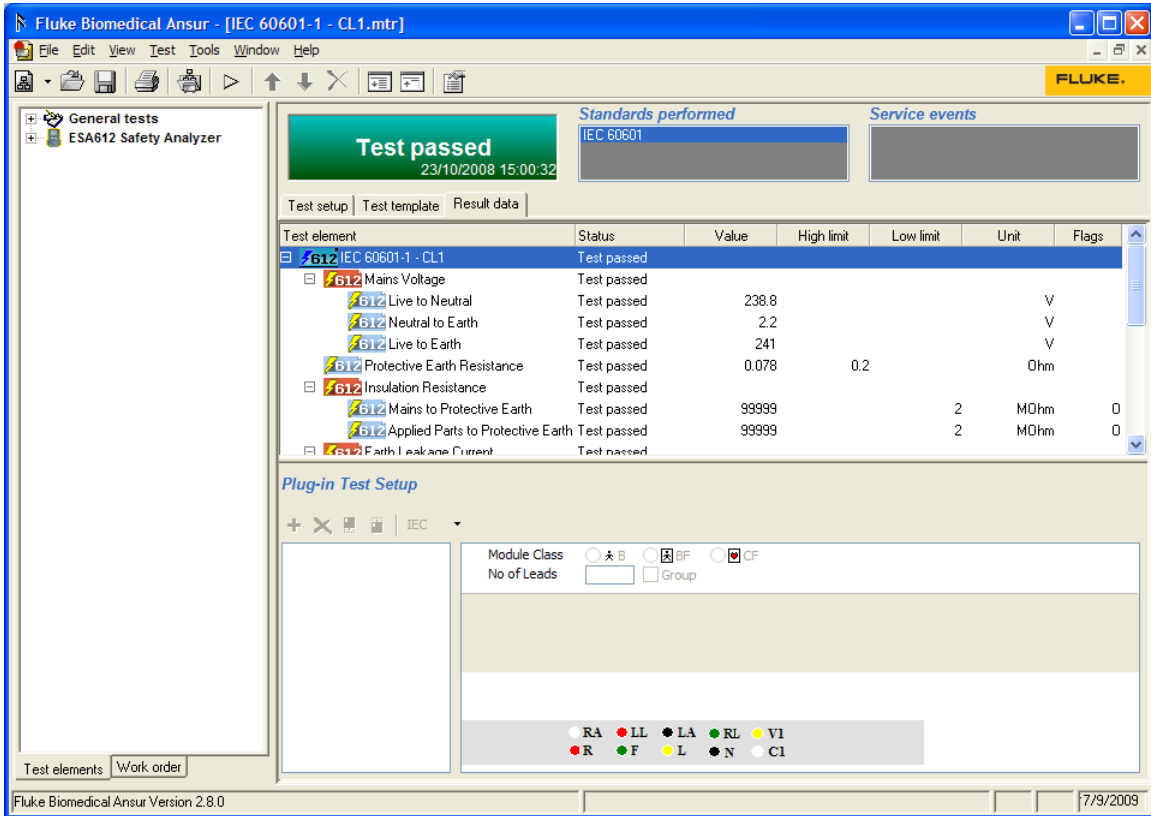

Figure 3-15. ESA612 Test Record
3. To create a Test Record, click the Next button (➡). The test summary window closes and a test record is opened in the main Ansur window as shown in Figure 3-15.